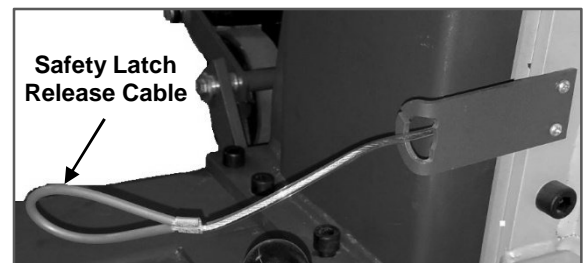

Fig. 30
**To Lower**, first you need to depress the power switch button a second or two to raise the lift up a little. Then, pull the safety latch release cable to disengage the safety latch to fully lower. After that press down the release handle again and hold. (Fig. 30).